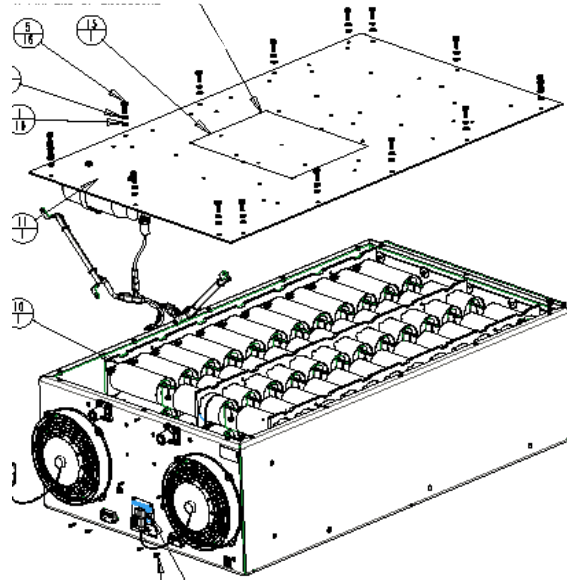

Fig 2 – UCAP Lid
- b. Remove cabinet cover and all existing perimeter hardware (16x screws, washers, and lock washers per UCAP) securing the UCAP lid to UCAP box. Fig 2.